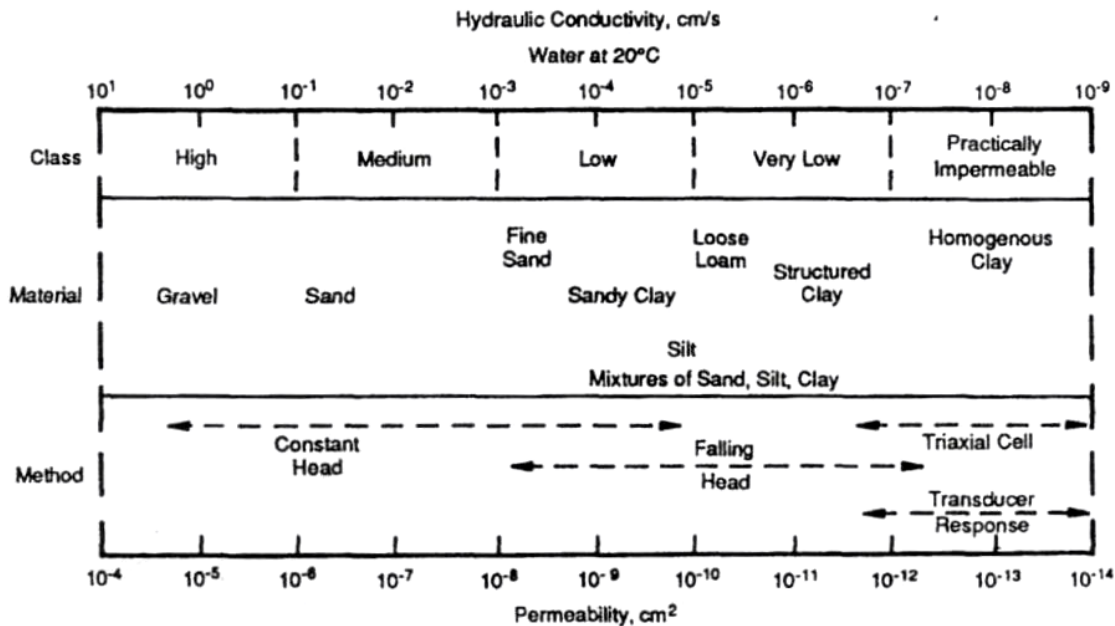

Figure 3: Hydraulic conductivity of various materials at saturation. (From Klute and Dirksen, 1986).
3. Based on the K_s of each soil sample, determine the textural classification of soil#1 and soil#2? Refer to Figure 3 below. Is it consistent with the observed texture?